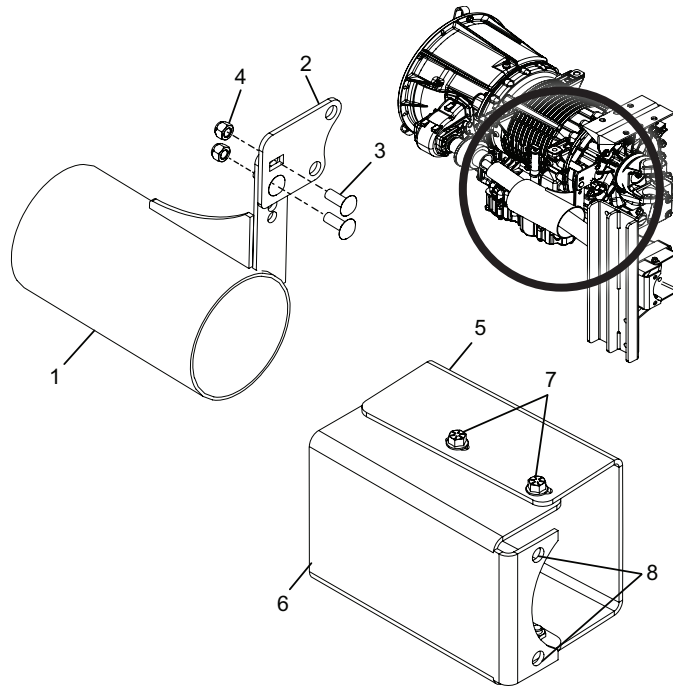

Figure 7
2. Remove and retain the hardware using the appropriate wrenches (Figure 7, Items 3 and 4) from the support plate (Figure 7, Item 2) to disconnect the circular Pump Mount cover (Figure 7, Item 1) from the support plate.
3. Remove and retain the hardware (located on topside and bottom side of the cover) (Figure 7, Item 7) from the square Pump Mount cover (Figure 7, Items 5 and 6).
4. Remove and retain the hardware connecting the square pump mount cover to the pump (hardware not shown, but location shown in Figure 7, Item 8).
5. Remove and retain both halves of the square pump mount cover (Figure 7, Items 5 and 6).